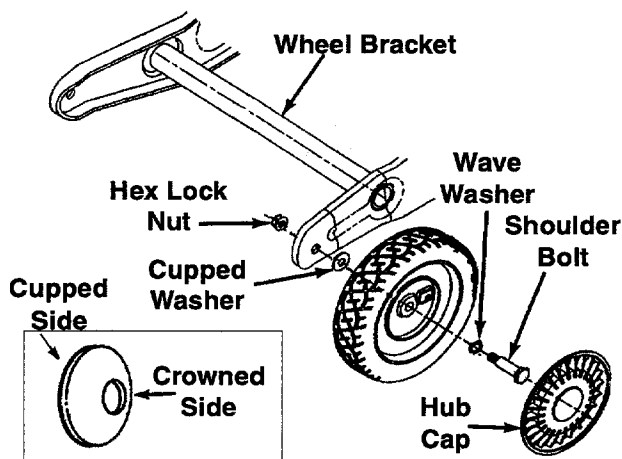

Figure 2
2. Remove the hex lock nuts and shoulder bolts from the front of the wheel brackets. See Figure 2.
**NOTE:** Cupped side of the washer goes against the chipper chute. See Figure 2 to identify cupped side of washer.